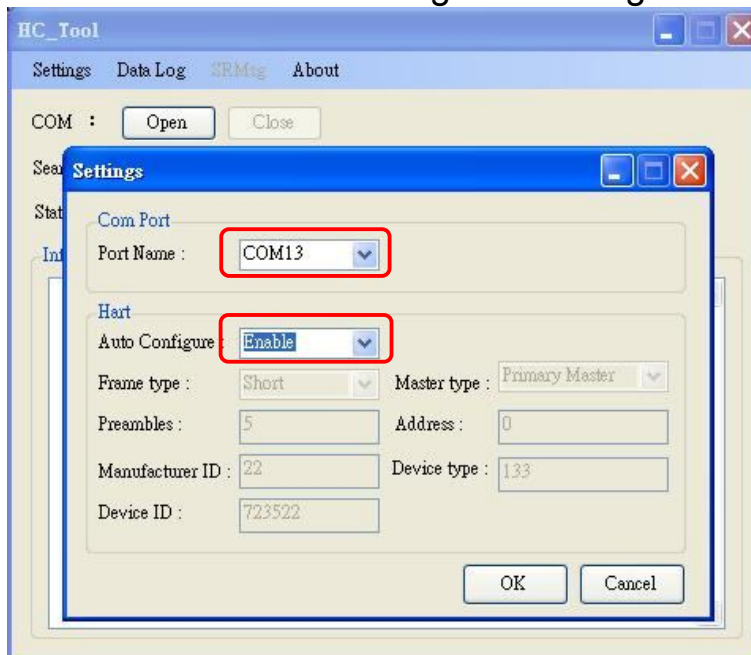

Figure 3-3: Set Com Port and HART status
Step3: Set “Port Name” and “Auto Configure“ like Figure 3-3.